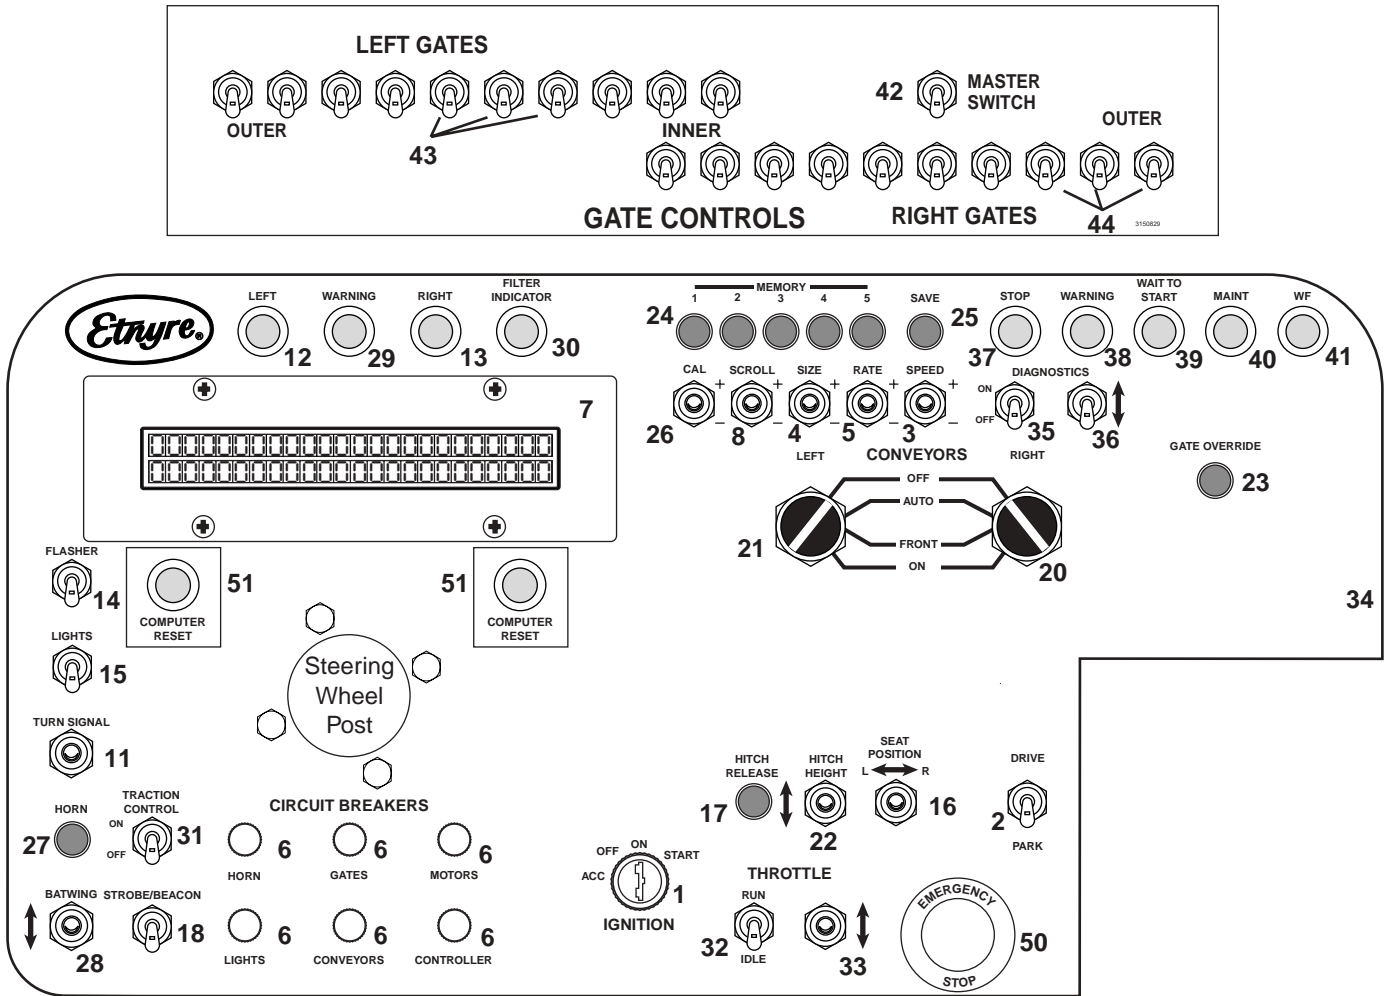
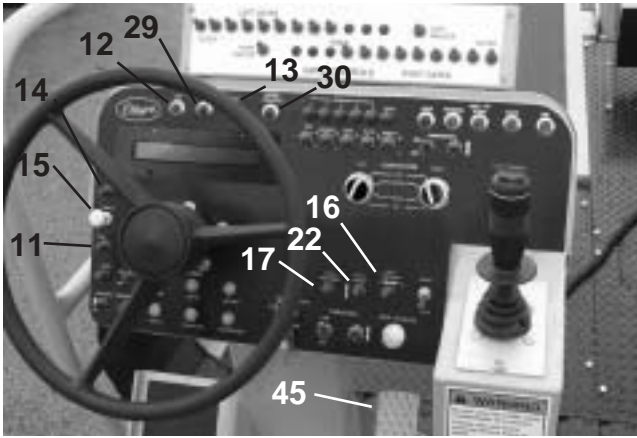

Figure 5. Control Console Identification
Figure 8. Control Panel
Refer to figure 5 for identification of described features.
11,12,13. Turn Signal Selector and Indicators. (Figure 5 & Figure 8)
14. Hazard Flasher Switch (Figure 8)
15. Headlight Switch (Figure 8)
16. Seat Shift Switch. (Figure 8) (Optional)
17. Hitch Release Pushbutton (Figure 8)
45. Brake Pedal (Figure 8)